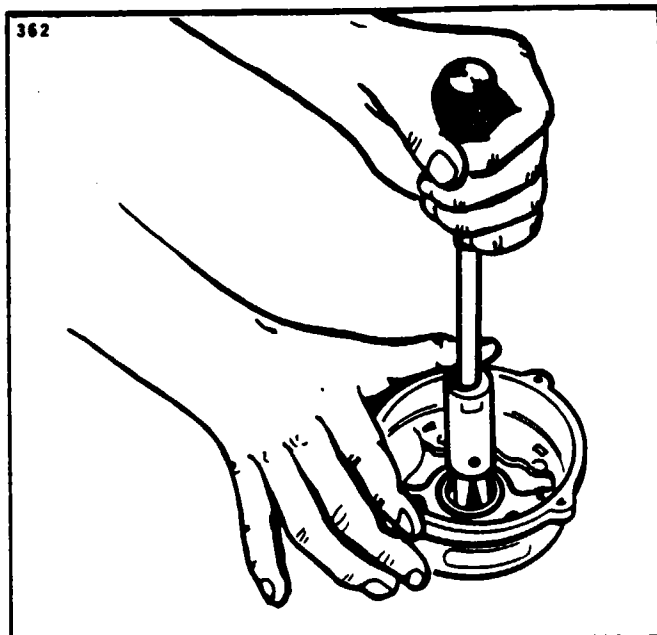

Figure 11-6. Removal of Slip Ring End Bearing
- e. To remove the slip ring end bearing and grease seal, it will be necessary to have a hook type or impact type bearing puller as shown in Figure 11-6. Do not remove the bearing unless replacement is necessary.